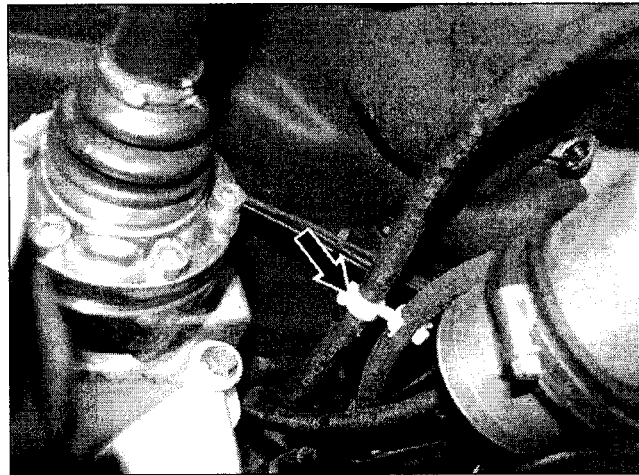

Figure 10
- To prevent fuel hose chafing, ensure hose positioning clips (arrow, Figure 10) are reinstalled in the same position on the fuel hoses (as originally installed) and that hoses are securely engaged into the clips (arrow).